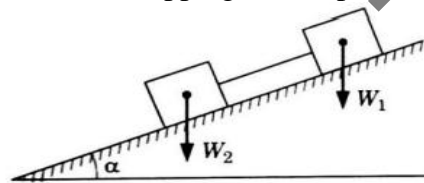

Figure.4
- b) Two block of weight $W_1 = 50 \text{ N}$ and $W_2 = 50 \text{ N}$ are resting on a rough inclined plane as shown in the figure 4. If $\mu = 0.3$ for W_1 and plane and $\mu = 0.2$ for W_2 and plane, find the inclination of the plane for which slipping will impend. [4+6]